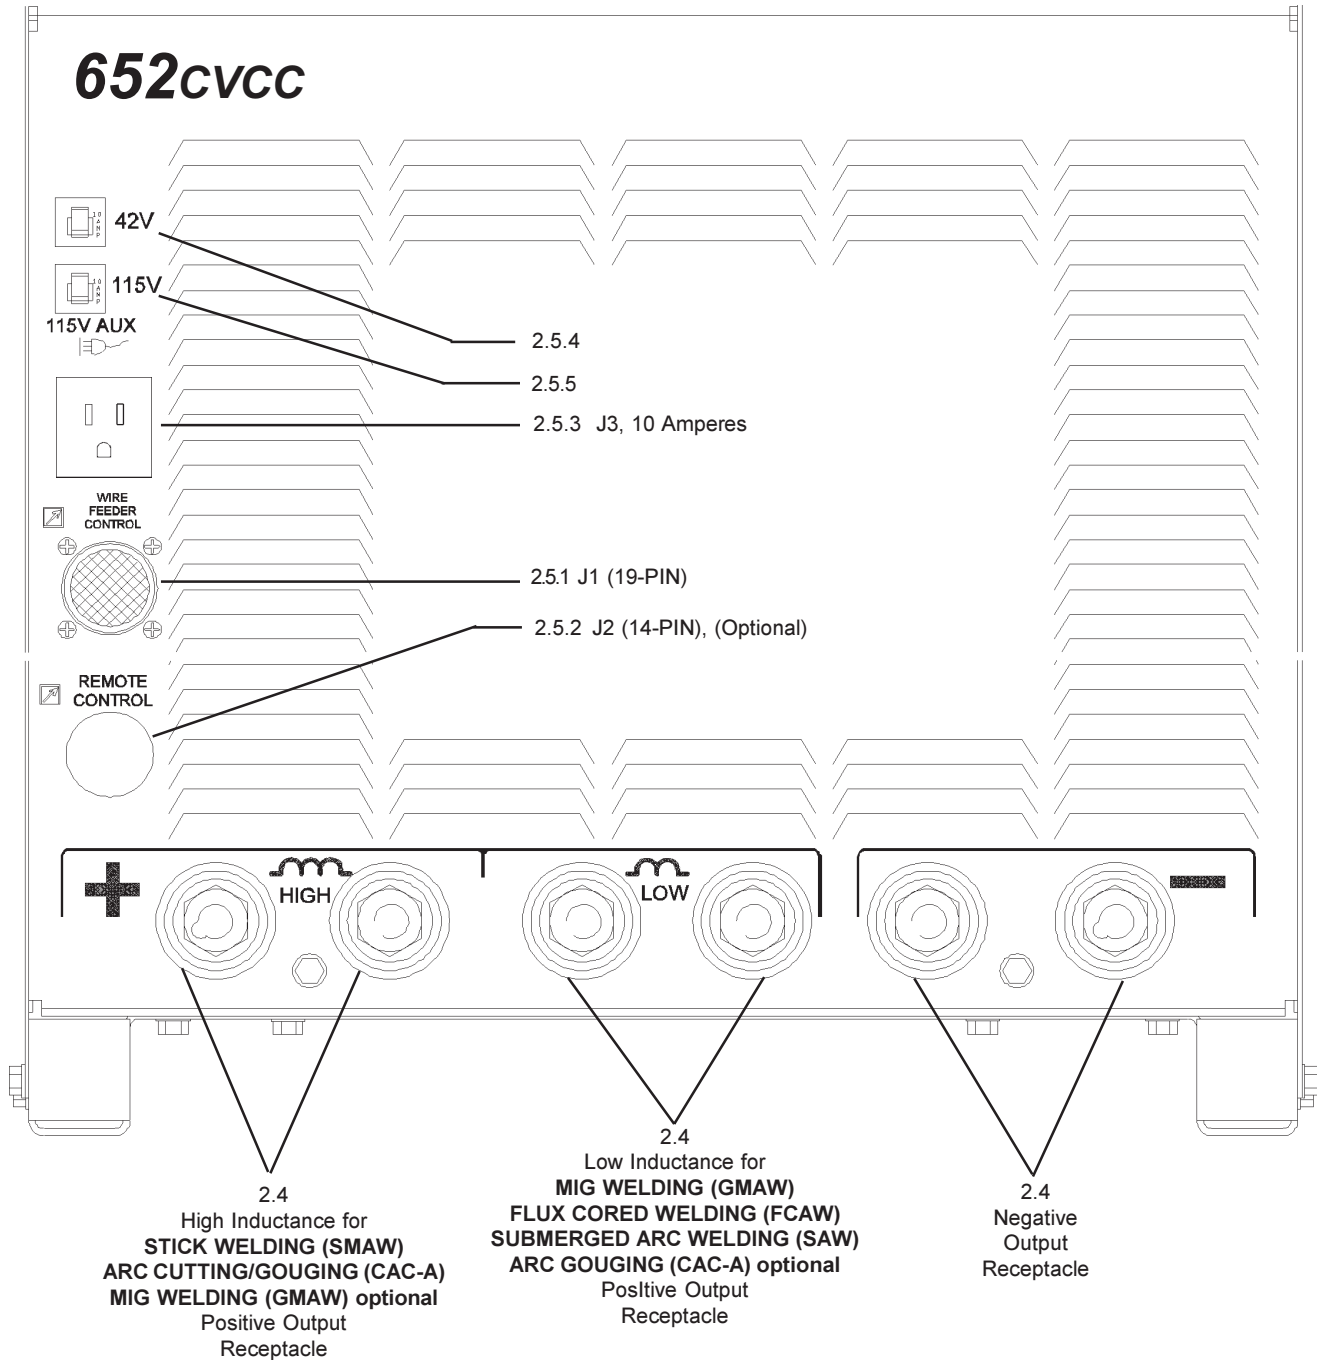

Figure 2-3. Connection Diagram
The output connections are located on the front panel (Figure 2-3). The negative connection is located at the bottom right corner and the positive (high inductance and low inductance) connections are located at the bottom left corner. Two output terminals are provided for each output connection. Each terminal is rated for a maximum output current of 400 amps. When operating in excess of 400 amps, parallel cables must be used, one in each output terminal. Table 2-2 provides the recommended cable output sizes.
Refer to Figure 2-3.
The 652cvcc and 782cvcc provides high and low inductance output connections (see figure 2-3). Both are positive output terminals. The high inductance terminal slows the power source dynamic response. This means the output current will build at a slower rate compared to the low inductance terminals. The welding process and application will determine which terminal should be used. The chart below provides suggested terminal connections.
- A. Make the secondary output connections to the positive and negative output receptacles. See paragraph 3.1.10 and figure 2-3.